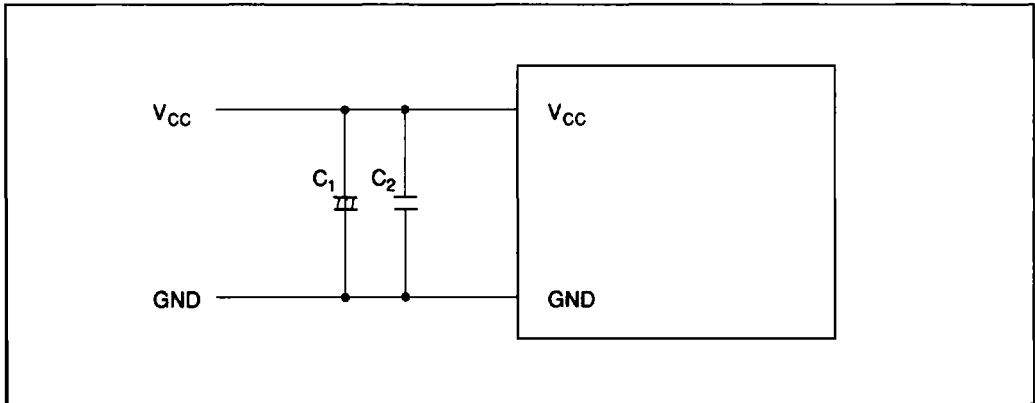

Figure 96 Example of Connections (2)
2. Between the V_{CC} and GND lines, connect capacitors designed for use in ordinary power supply circuits. An example connection is described in figure 96.